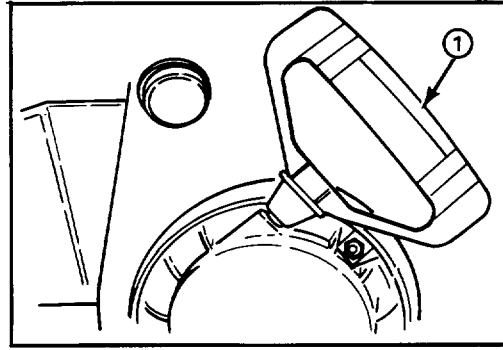

Figure 13
**Recoil Starter** (Fig. 13) — Recoil starter is on back side of engine. Pull recoil starter to start engine.
6. Grasp recoil starter handle (Fig. 13) and pull it out slowly until positive engagement results; then pull vigorously to start the engine. Keep firm grip on starter handle and return the rope slowly.